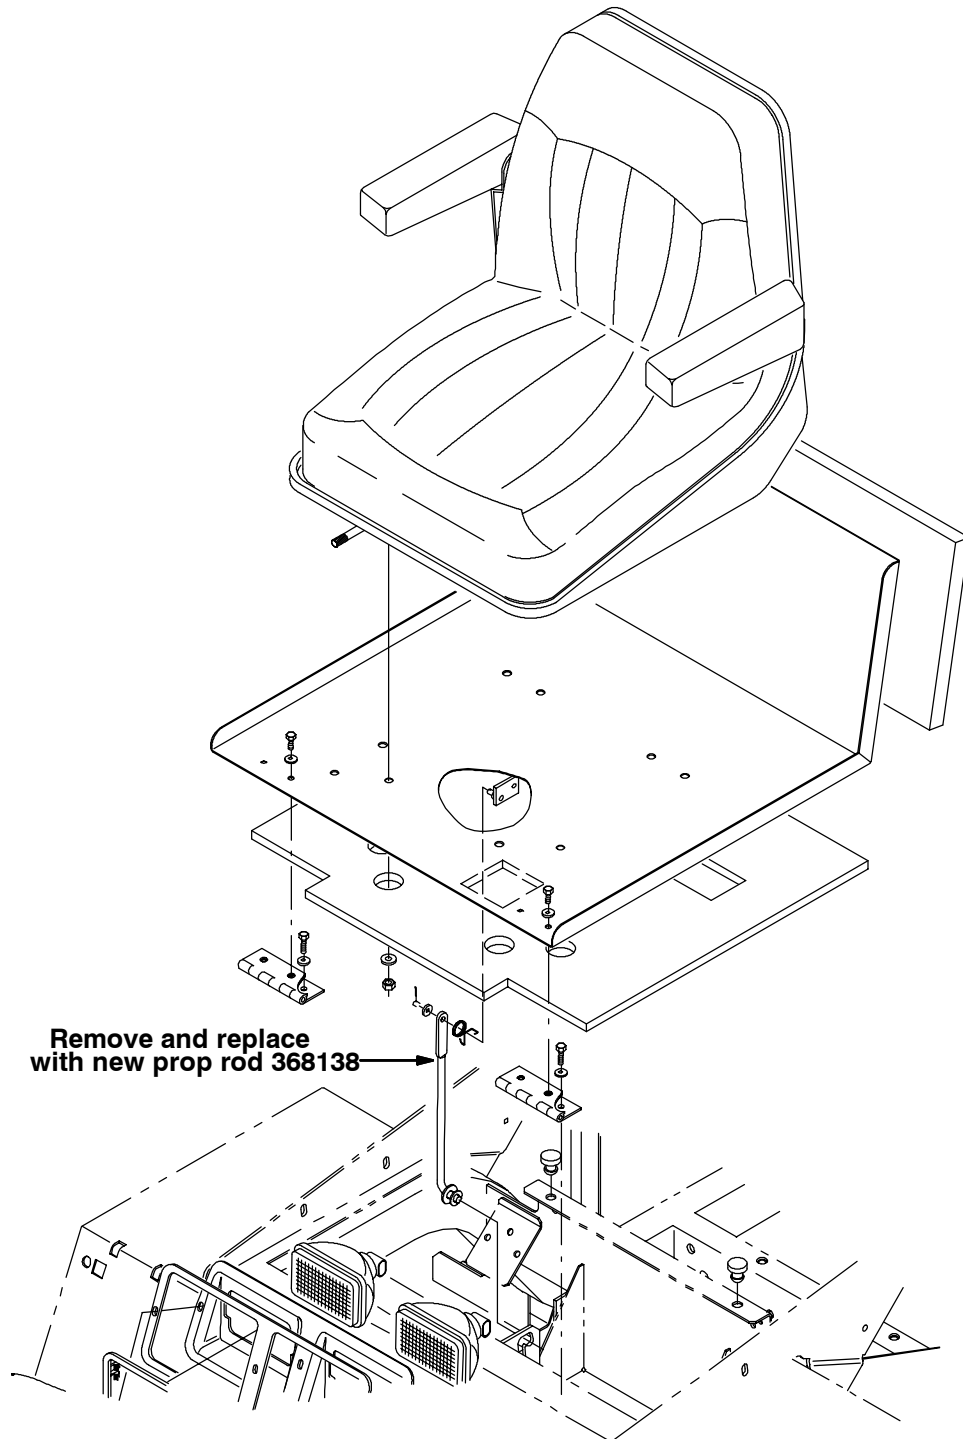

FIG. 1 - NEW SEAT PROP ROD INSTALLATION
(Refer to FIG. 1 thru 15)
1. Raise the operator's seat and locate the seat prop rod. (Refer to FIG. 1)
2. Remove the old seat prop rod, and replace with the new seat prop rod (16). (Refer to FIG. 1)